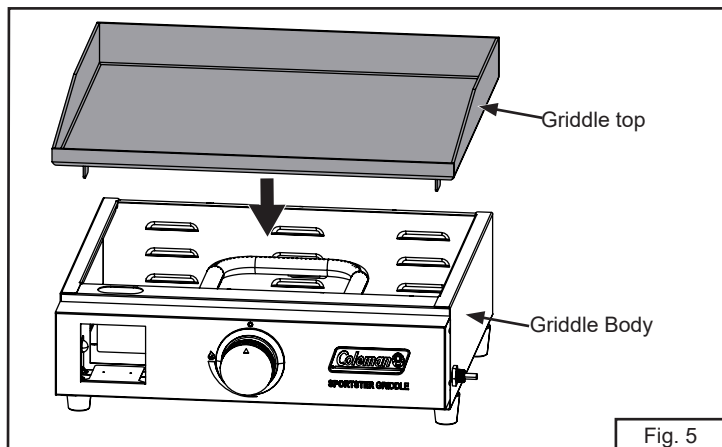

Fig. 5
4. Place the griddle top onto the griddle body (Fig. 5).